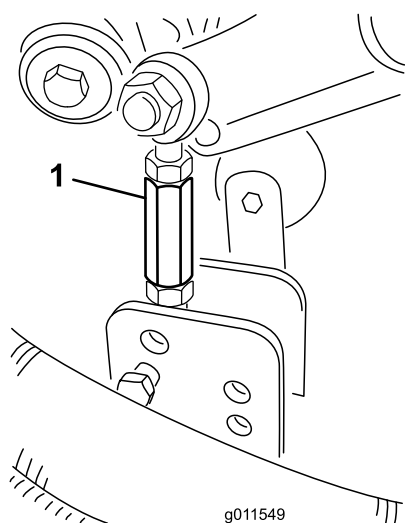

Figure 28
9. Remove the hairpin cotters and clevis pins securing the damper links to the mower-deck brackets (Figure 28).